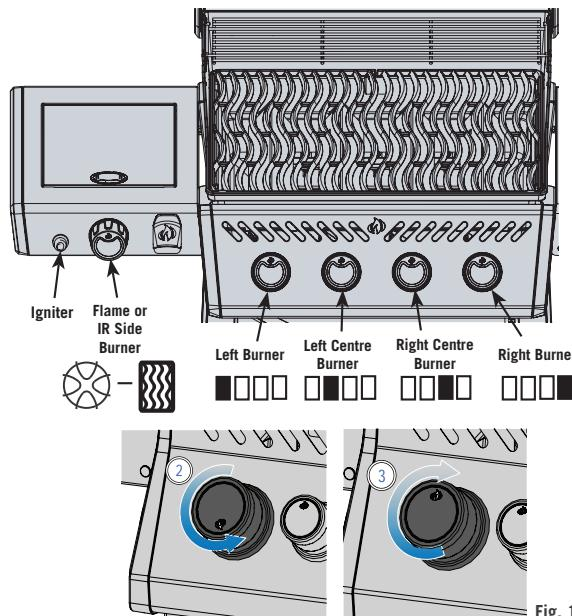

Fig. 1
4. If the pilot and burner will not light in 5 seconds – turn the control knob clockwise to the OFF position. Wait 5 minutes for gas to dissipate. Repeat steps 2 and 3, or light with a match. (Fig. 1) .